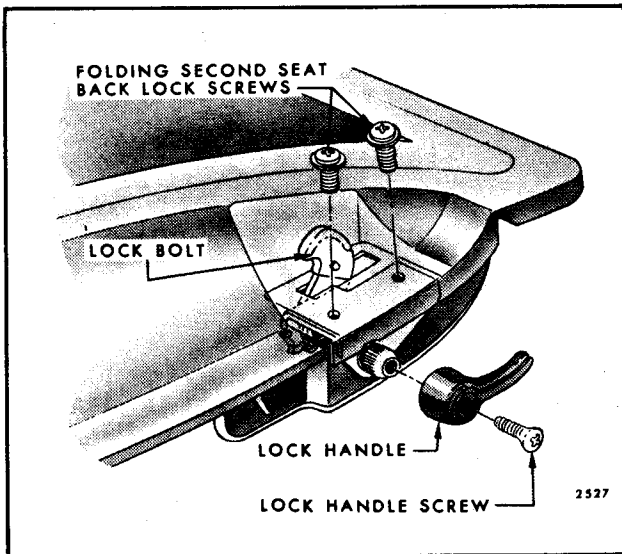

Fig. 14-73-Folding Second Seat Back Lock Installation - All "A and B" Station Wagons (Except Vista Cruiser and Sport Wagon Styles)
2. Remove seat back lock handle attaching screw and remove lock handle (Fig. 14-73).
3. Remove seat back lock retainer attaching screws (Fig. 14-89) and remove seat back lock retainer and lock from seat back panel (Fig. 14-73).